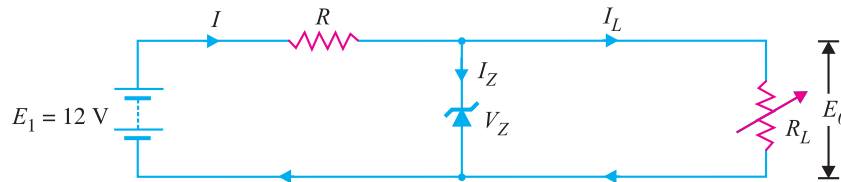

Fig. 6.63
**Example 6.27.** A 7.2 V zener is used in the circuit shown in Fig. 6.63 and the load current is to vary from 12 to 100 mA. Find the value of series resistance  $R$  to maintain a voltage of 7.2 V across the load. The input voltage is constant at 12V and the minimum zener current is 10 mA.